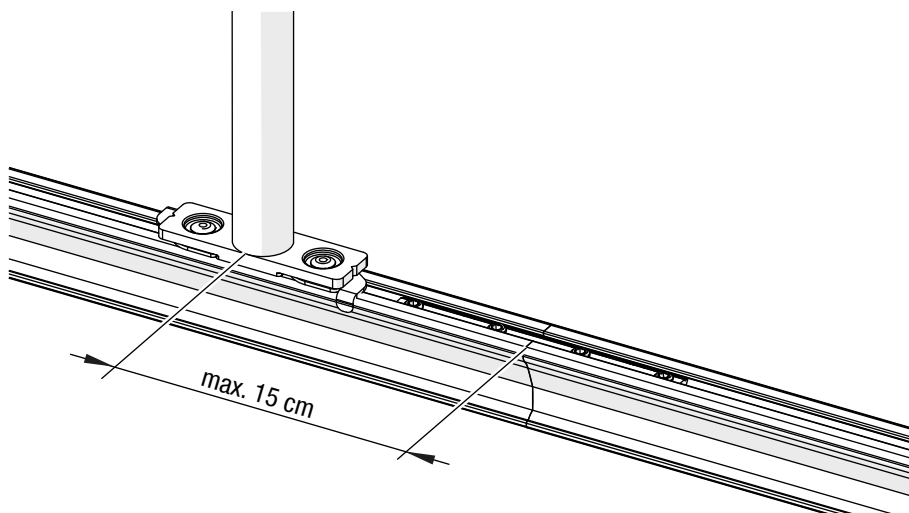

Fig. 23: Ceiling installation OFFICE suspension – Suspension distance to the joint
- ➔ Attach a suspension point on one side at a maximum distance of 15 cm from the centre of the suspension to the joint (see Fig. 23).